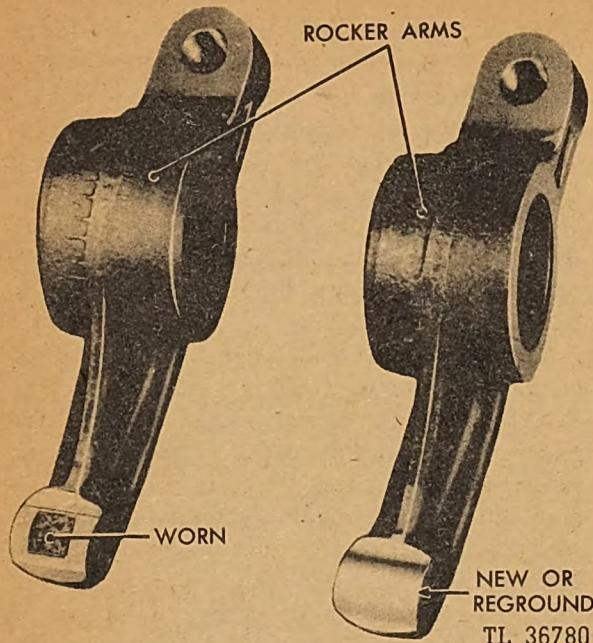

Fig. 128. Worn and Reground Rocker Arms
m. *Valve Rocker Arms.* Bushings in valve rocker arms are pressed in; oil holes are drilled after bushings are pressed in. Valve rocker arm bushings are broached to very close tolerances. When bushings have become worn, replace complete rocker arm. Rocker arms should be replaced when the clearance between the shaft and the arm exceeds .006 inch. Examine the rocker arm where it contacts the valve stem; if worn, either replace or reground to the original contour. Figure 128 illustrates a worn rocker arm in comparison with a new rocker arm.